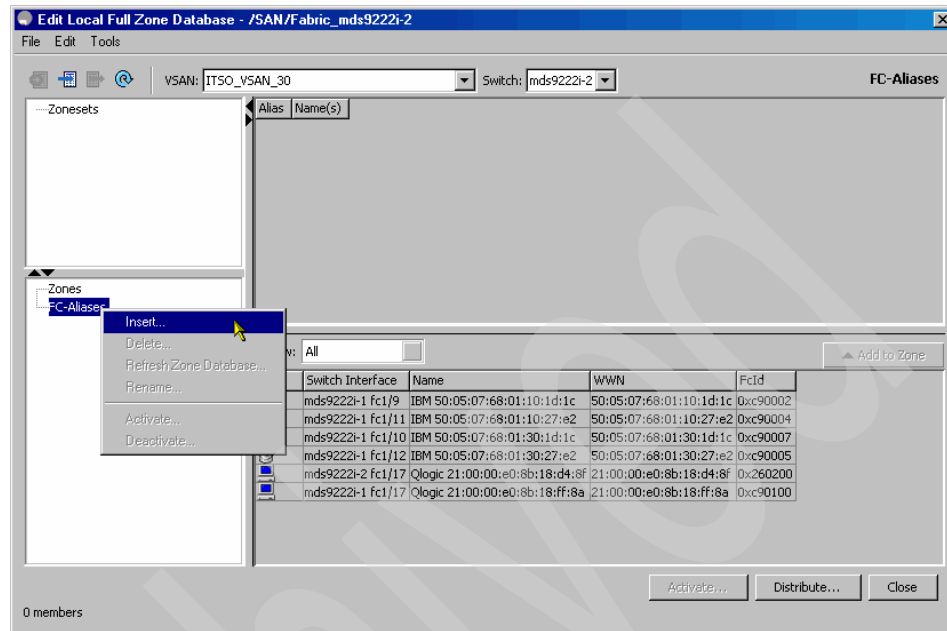

Figure 6-47 Inserting a new alias
2. In the edit full zoneset database right-click **Aliases** to insert a new alias, as shown in Figure 6-47.